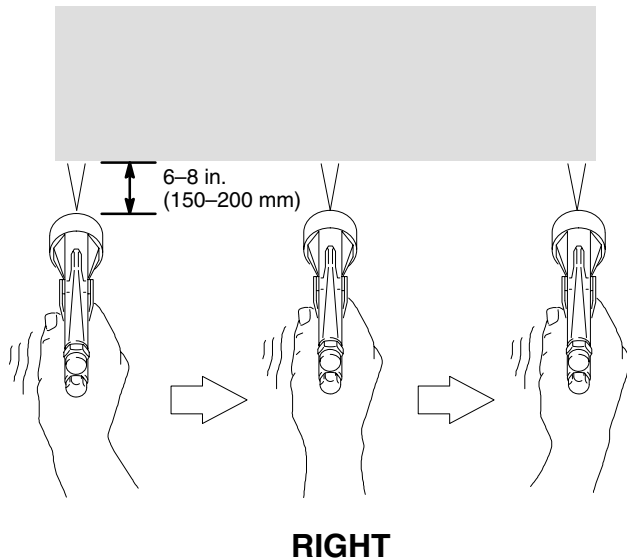

Fig. 14
3. Keep the gun perpendicular to the surface and maintain a consistent distance of approximately 6 to 8 inches (150 to 200 mm) from the object being sprayed. See Fig. 14.